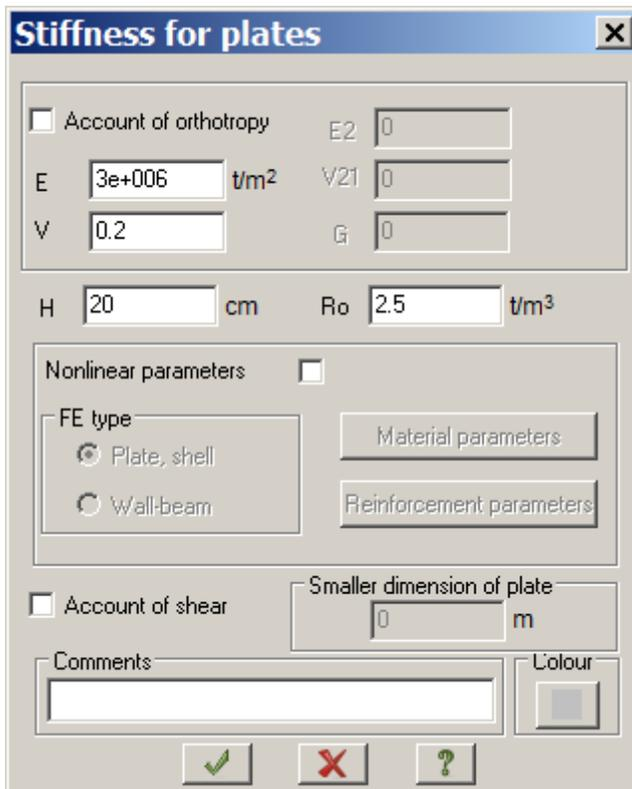

Figure 18.7 **Stiffness for plates** dialog box
- ⇒ In the **Stiffness for plates** dialog box (see Fig.18.7), specify the following parameters for **Plate** (floor slab):